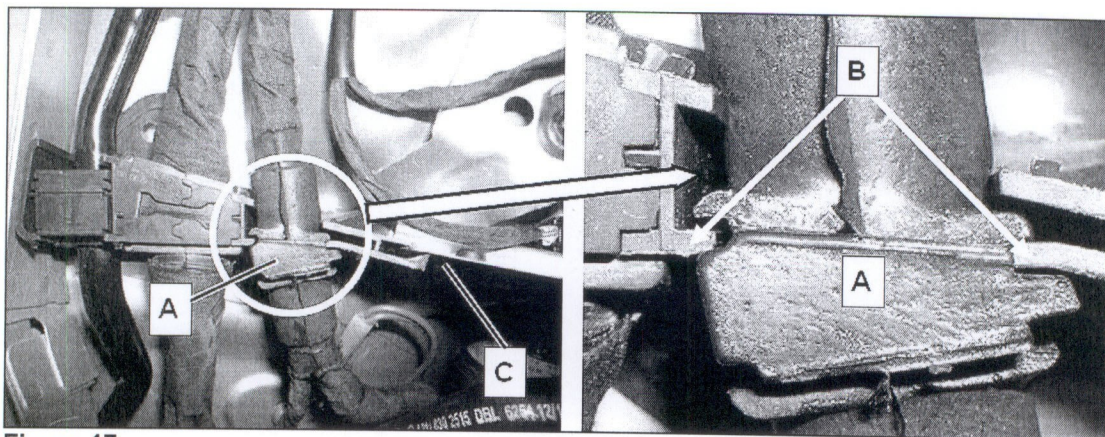

Figure 17
- Reposition SBC wiring harness with grommet (A, Figure 17) into the forward wall opening (B) in the wire harness guide (C).